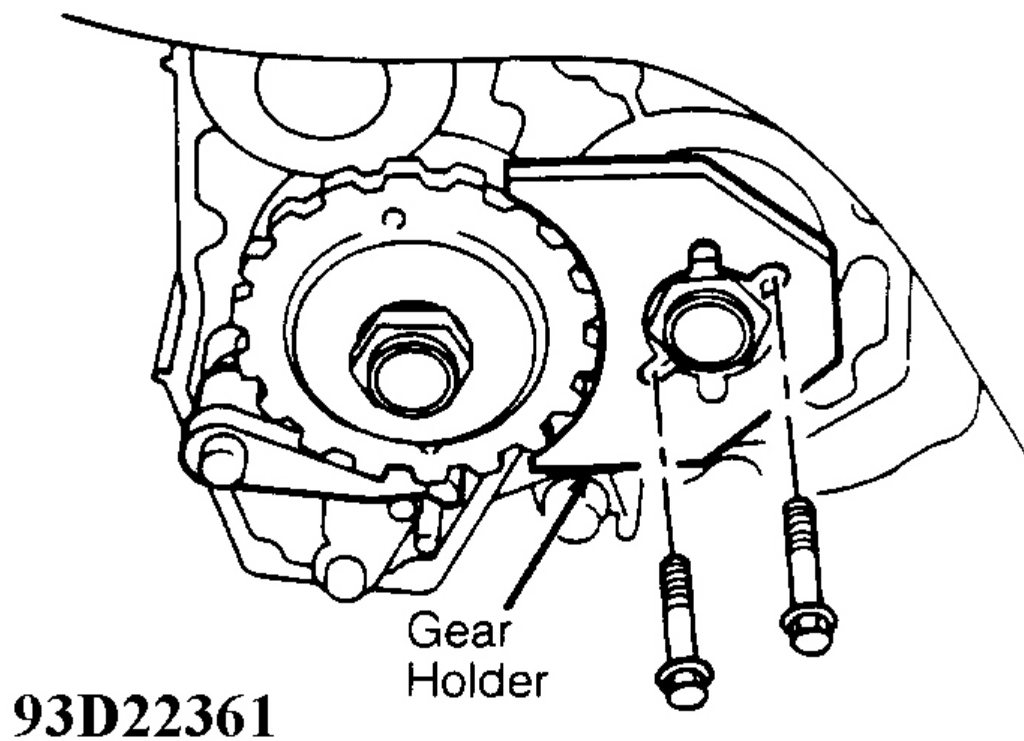

Fig. 32: Installing Gear Holder
11. Using 2 bolts, install gear holder on mainshaft idler gear. See **Fig. 32** . Ensure shoulders on rear of gear holder engage with recess area on front of mainshaft idler gear. Remove lock nut from secondary shaft. Remove gear holder.